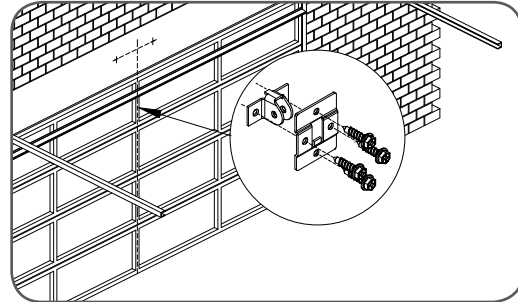

fig 18
The door bracket comes in two parts. The bottom plate with two mounting holes is used on its own for one piece doors. For sectional doors, the top plate is placed over the bottom plate and is fixed with four (4) screws (**Fig. 18**).
- Mount the door bracket, or bracket assembly, on the door's centre line one-third down the top panel (**Fig. 18**) using M6 or equivalent screws (not supplied),